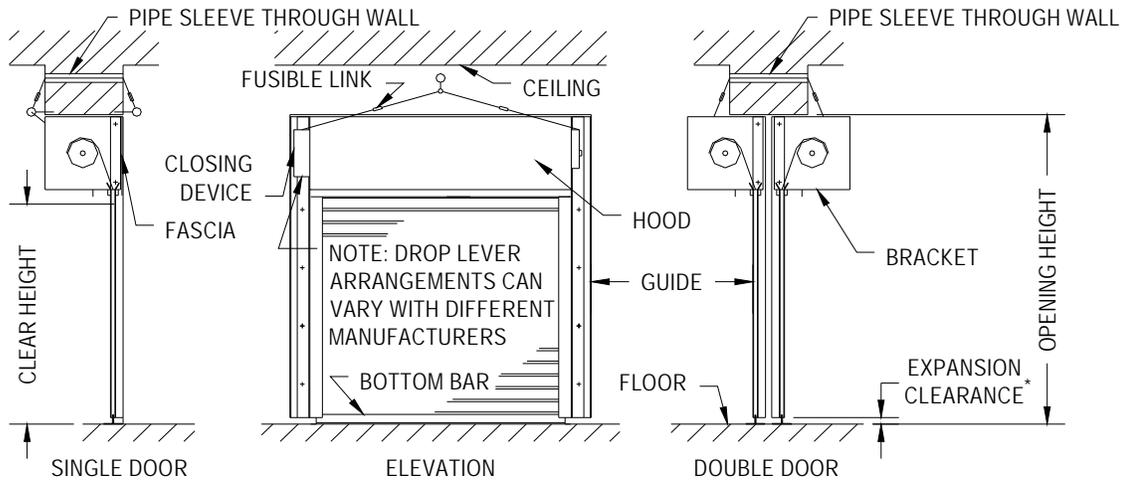

**Figure 3**
**A4.7.5** The arrangements shown in Figures 3 and 4 are recommended to provide the performance intended. Other arrangements acceptable to the authority having jurisdiction could be permitted to be used.
The fire door mounting, headroom, wall & ceiling construction, building obstructions, and the fire door construction itself will determine how to route the fire door release assembly. There are two standard types of mounting conditions for a fire door. One is "face mounted" where the door is mounted on the face of the wall and with varying headroom conditions (See Figure 3). The other is "between jamb mounted" where the door is mounted between the jamb and under the lintel, where there is no additional headroom above the lintel (See Figure 4).